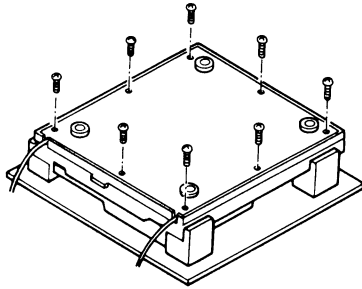

Figure 3
3. Remove the 8 screws (43) that fasten the bottom cover and remove the bottom cover as shown in Figure 3.